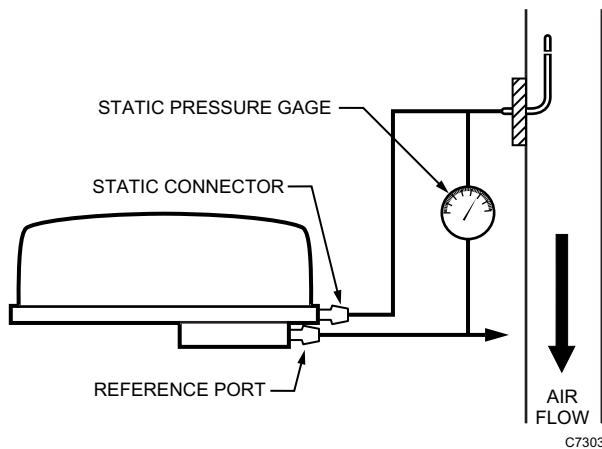

Fig. 7. Installing a Static Pressure Gage on the PP904A and B or P246A.
Adjust the regulator setpoint and observe the operation of the damper operator. With the system in operation and the regulator in control, connect a static pressure gage with sufficient range for the application, across the two connectors (Fig. 7). If the gage reading is correct, relative to the setpoint, the system is operating properly.
PP904A and B Static Pressure or Differential Control (Fig. 7)
- ① Set the throttling range to the desired setting.
- ② Set the setpoint indicator to the desired setting.
- ③ Connect the static pressure gage across the input ports (Fig. 7).
- ④ With the system in operation, check the static pressure gage for the desired pressure.
- ⑤ If the gage reading differs from the actual setpoint, adjust the large knurled screw (course adjustment, Item 35, Parts List) until the correct reading is reached.
- ⑥ On very low throttling ranges, it may be necessary to use the small knurled screw (Item 34, Parts List) for fine settings.
- ⑦ After making any changes in the setting, allow sufficient time for the system to stabilize and recheck the calibration.
- ① Adjust the coarse adjustment screw to position the pointer at the desired setpoint.
- ② Connect the static pressure gage across the two static pressure head connectors (Fig. 7).
- ③ With the system in full operation, check the gage for a differential pressure reading. If the gage reading is correct, and the switching lever is between the contacts, the calibration is correct.
- ④ If the gage reading is different than the setpoint setting, check the calibration by manually positioning the motor until the regulator and gage setpoints agree.
- ⑤ Disconnect the motor leads and position the main lever, using the large knurled screws, to achieve a floating action of the switching lever.
- ⑥ The regulator is correctly calibrated. Reconnect motor leads.
- ⑦ If it is necessary to decrease the differential, adjust the contact point screw clockwise equally on the blue and white terminals. To increase the differential, back off the contact screws (counterclockwise).